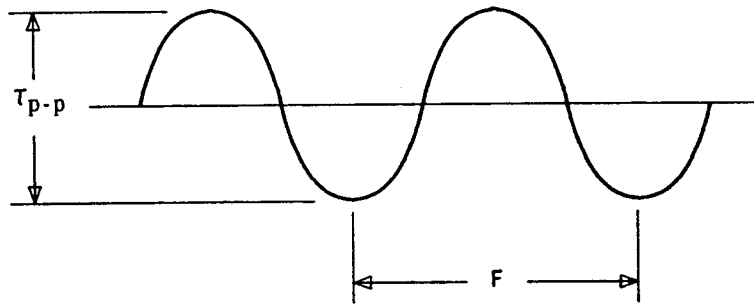

Fig. 6—Ripple Measurement
- Ripple = $(\tau_{p-p}) \times (F) \leq 12.6$ where τ is in nanoseconds and F is in Megahertz (Fig. 6).